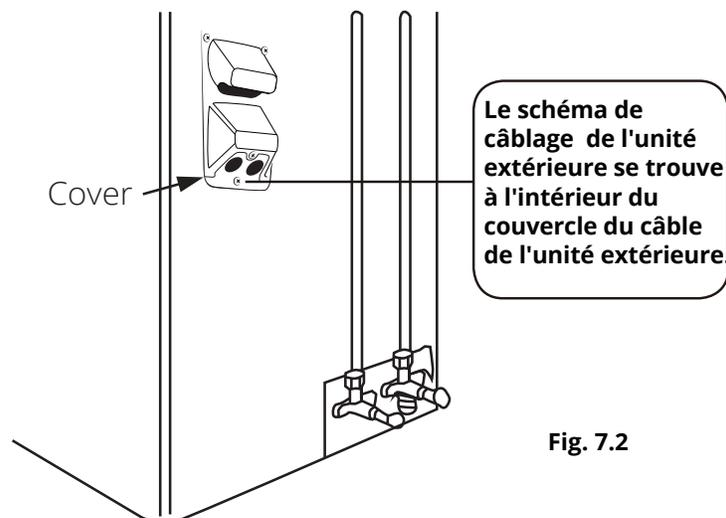

Fig. 7.2
**TOUS LES CÂBLAGES DOIVENT ÊTRE EFFECTUÉS CONFORMEMENT AU SCHÉMA ÉLECTRIQUE QUI SE TROUVE DANS LA FIG 7.2.**